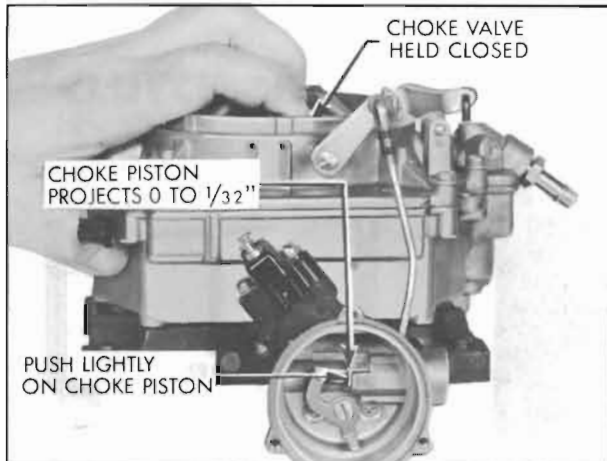
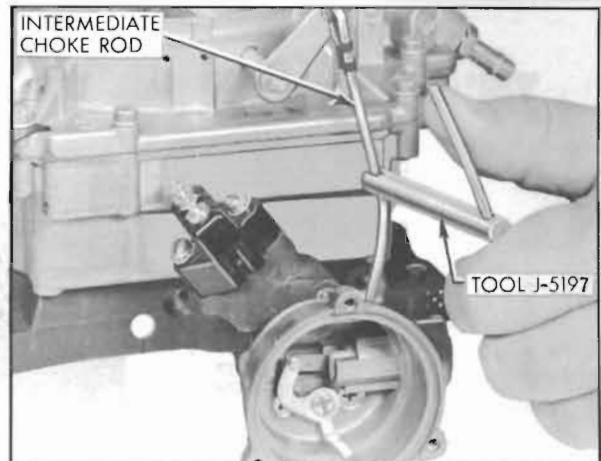

Figure 3-100—Checking Choke Piston Adjustment
Figure 3-101—Adjusting Choke Piston
25. With choke valve held tightly closed, and with choke piston pushed lightly toward its cylinder (to take-up any linkage slack), check to see that choke piston is projecting from cylinder between 0 and $\frac{1}{32}$ ". See figure 3-100. If adjustment is required, bend intermediate choke rod using Tool J-5197. See figure 3-101.